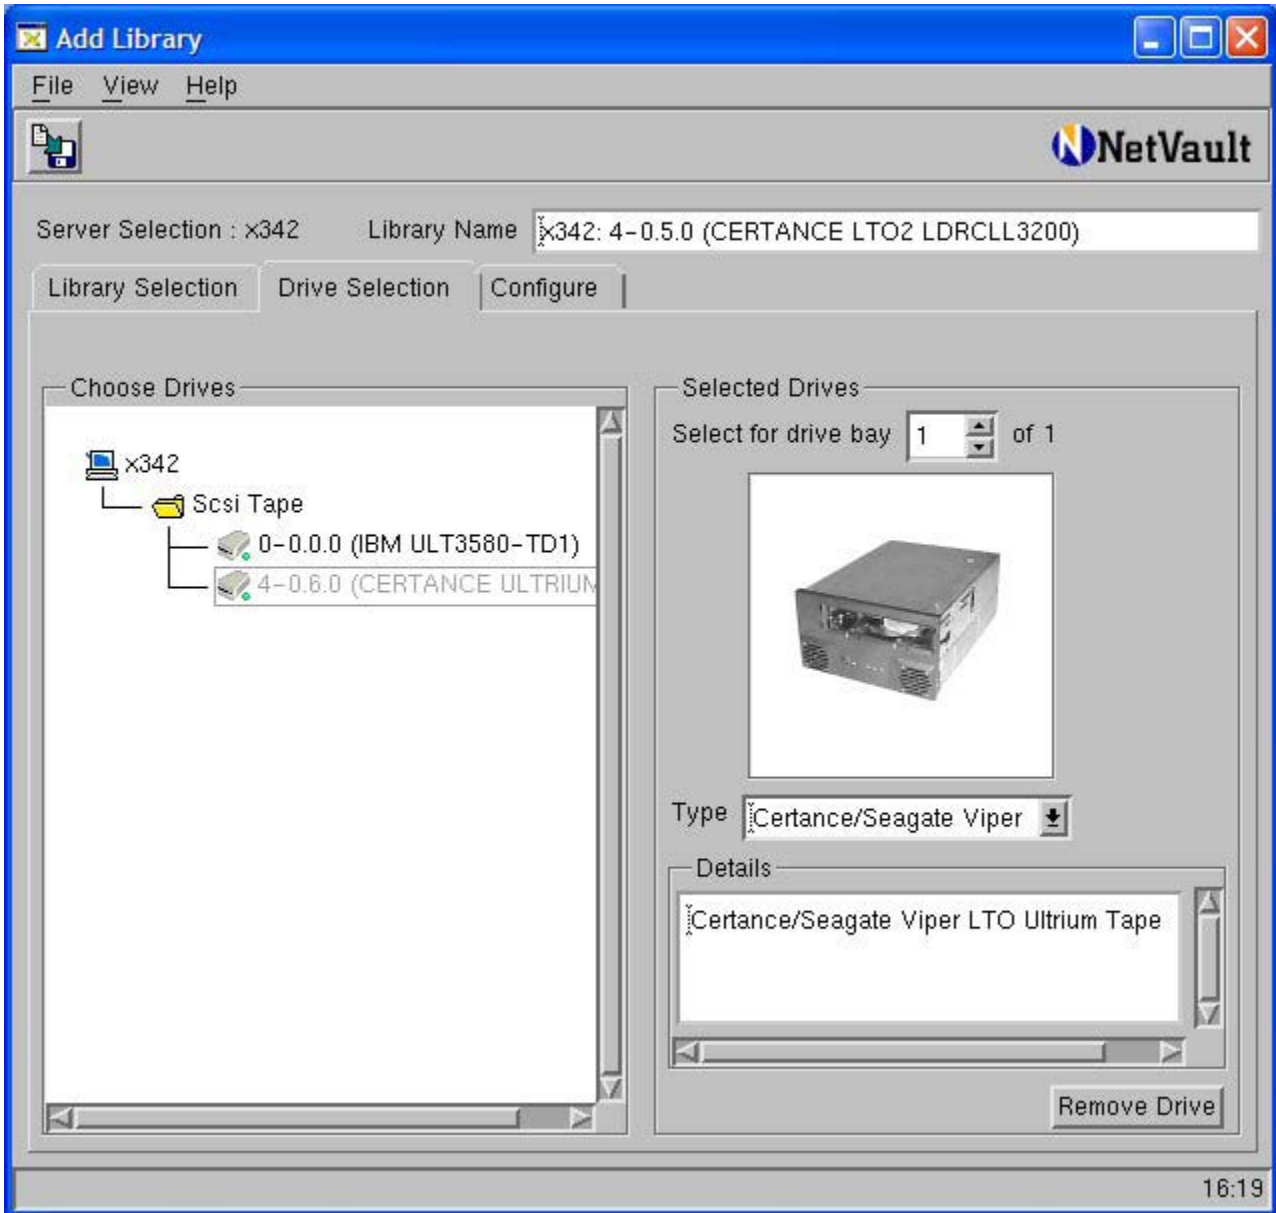

Figure 2. Drive Addition Within NetVault
- ✓ Add the drive by selecting the drive and verify the correct device is displayed in the Selected Drives area on the right. (Refer to Figure 2 for an example)